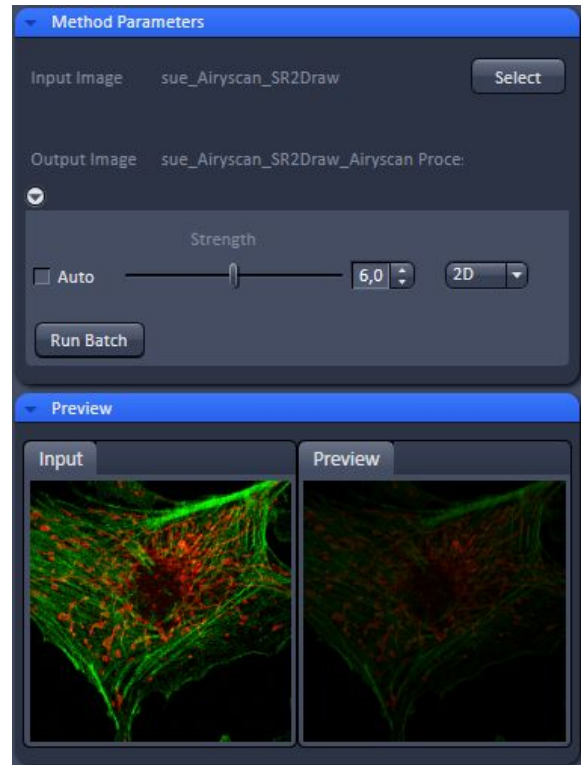

Fig. 254 Airyscan Processing tool: Method Parameters, Manual
- For manual processing, deactivate the **Auto** checkbox (Fig. 254).
A new image will open with the result of the manual processing (Fig. 254). All images in a time series or Z-Stack will be processed.